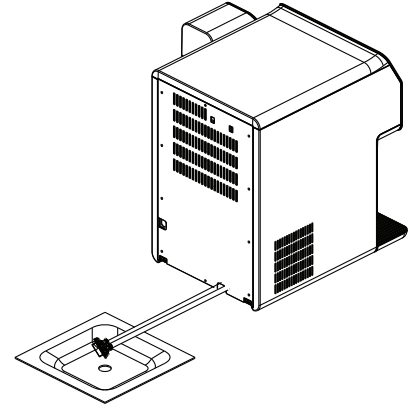

Figure 6
10. Then lay them down to drain into a sink or bucket that is below the level of the ice maker. See Figures 6 and 7.